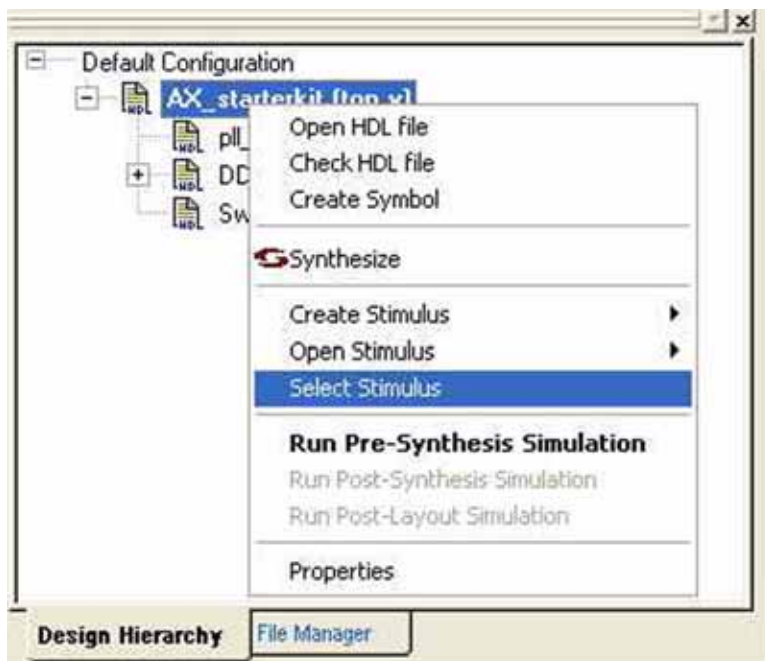

Figure 3-18. Select Stimulus
1. Select a stimulus file. Right-click *AX_starterkit* on the Libero IDE Design Hierarchy tabbed page and select *Select Stimulus*, as shown in Figure 3-18.